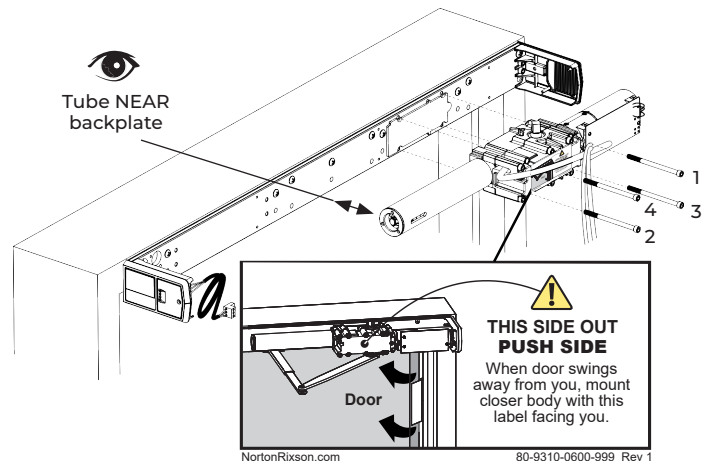

Fig. 9
1. Using the four (4) screws provided, install the operator body to the backplate. (Fig. 9)
- Tighten screws in a cross pattern until all four (4) screws are tight. (Fig. 9)
(Fig. 9)